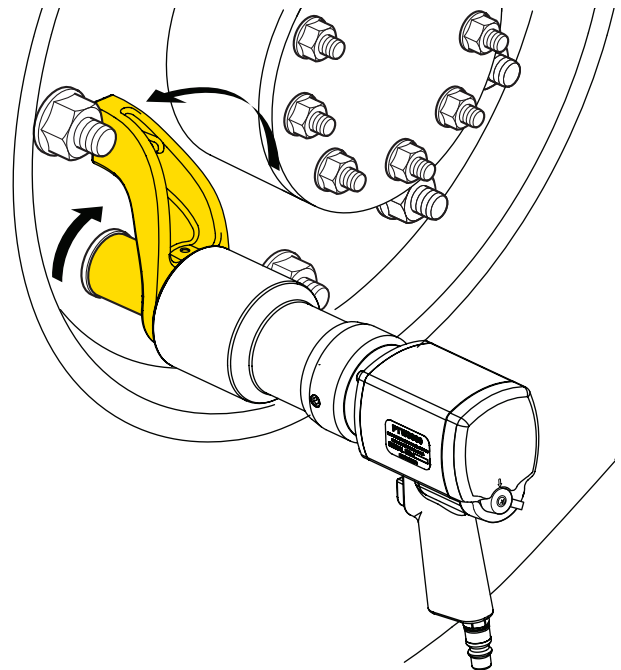

Fig. 8
- Fig. 8 shows the position for the reaction arm when the square drive rotates clockwise.
11. To tighten a fastener (or to apply torque in the clockwise direction): Be sure the adjustment lever is set to the “F” position, and that the reaction arm is positioned as shown in Fig. 8. Then, fully depress the trigger, and keep it depressed until the wrench stalls.